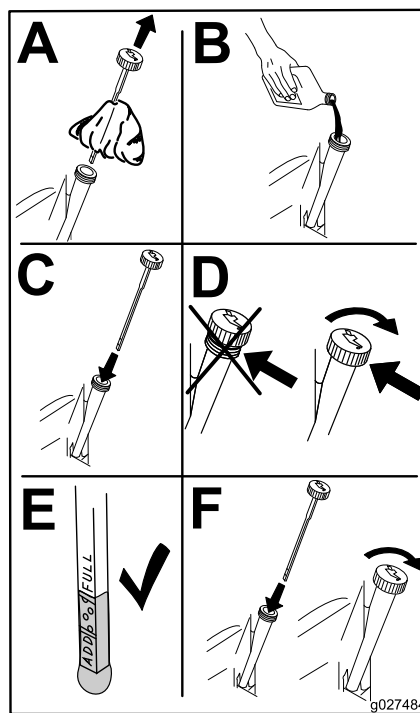

Figure 48
6. Slowly pour approximately 80% of the specified oil into the filler tube and slowly add the additional oil to bring it to the **Full** mark (Figure 48).